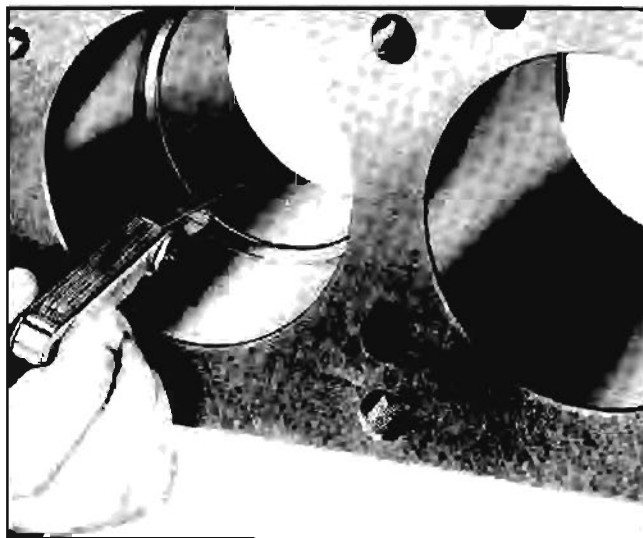

Fig. 6-53 Checking Ring Gap
3. Measure gap between ends of ring with feeler gauge (Fig. 6-53). Gaps should be as follows: